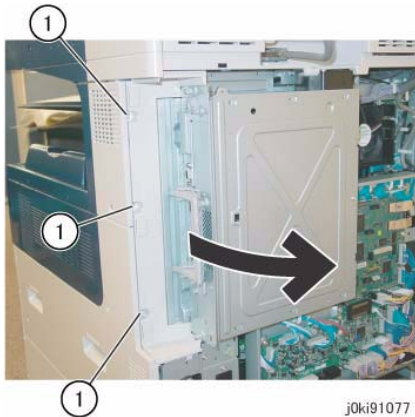

Figure 4 Open the PWB Chassis
9. Open the PWB Chassis Unit. (Figure 4)